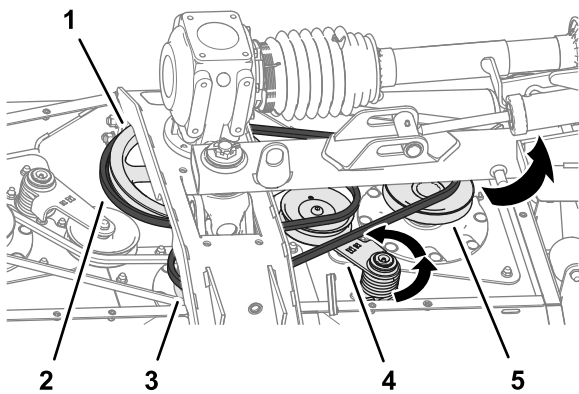

Figure 65
2. Use a breaker bar or similar tool to rotate the belt tensioner for the long belt counterclockwise and slip the belt off the tensioner pulley (Figure 65).
3. Slip the long belt off the drive pulley, center-spindle pulley, and right-spindle pulley (Figure 65).